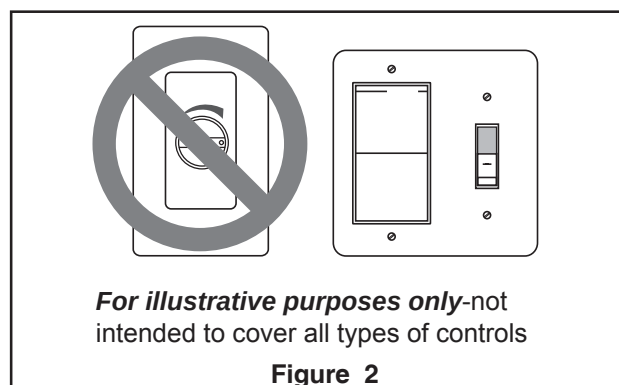

Figure 2
- ☐ 2. **IMPORTANT:** Using a full range dimmer switch (not included) to control fan speed will damage the fan. To reduce the risk of fire or electrical shock, do not use a full range dimmer switch to control the fan speed. (Figure 2)
2. Install the control bracket with two #6-32x 3/4" screws. And push the four plastic plug to cover the screw holes. (Including in the control).(Figure 2)
2. Install the control bracket with two #6-32x 1" screws. And push the four plastic plug to cover the screw holes. (Including in the control).(Figure 2)